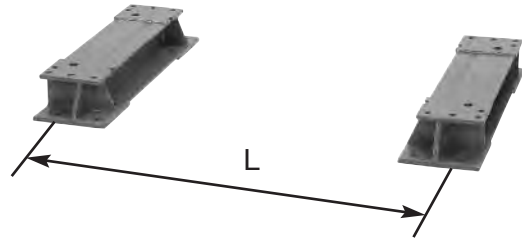

FIGURE 1
2. Refer to Figure 1 and Table 7.1 to determine the anchor spacing. The top module weldment can also be used to position the base beams, loosely bolt the top module weldment to the base beams. See Figure 2.
3. Mark the floor with the location of the floor anchors. All holes are to be used when anchoring to the floor. Dimension "L" in Figure 1 is to the outermost set of holes.